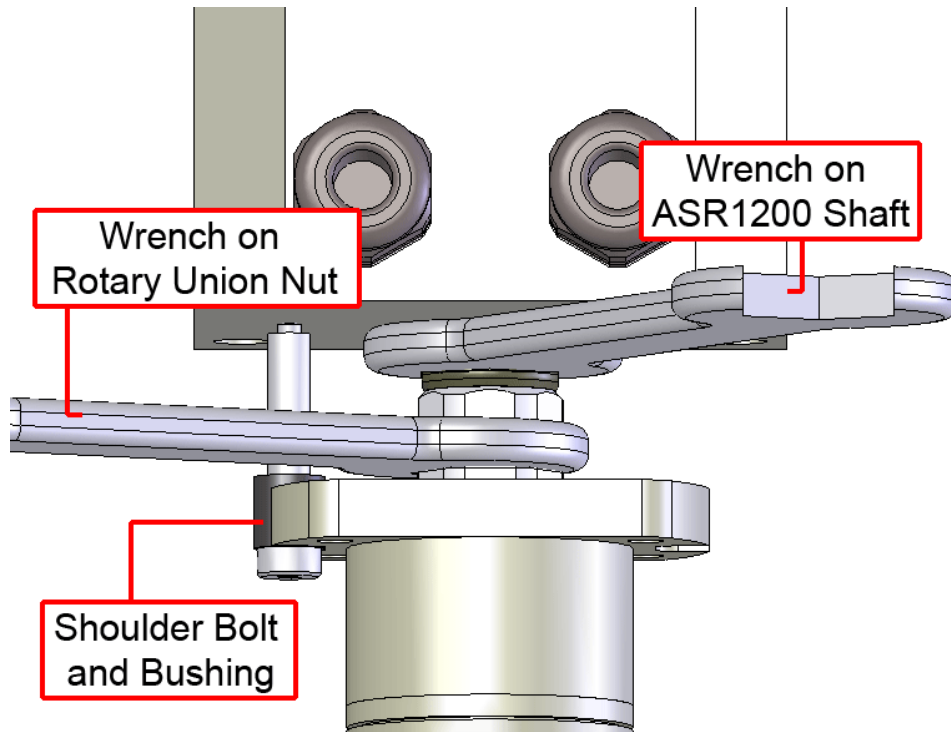

Figure 4-10: Wet Cut Rotary Union Installation
3. Remove shoulder bolt and bushing (see Figure 4-10).
4. Using two 19 mm wrenches (one on rotary union shaft nut, the other on ASR1200 shaft flats) coming in from the top of the carriage, unscrew the rotary union from ASR1200 shaft (see Figure 4-10).